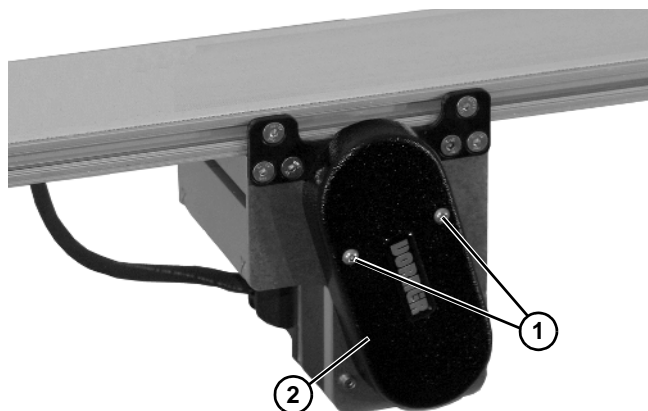

Figure 3
1. Remove two (2) screws (**Figure 3, item 1**) and remove cover (**Figure 3, item 2**).